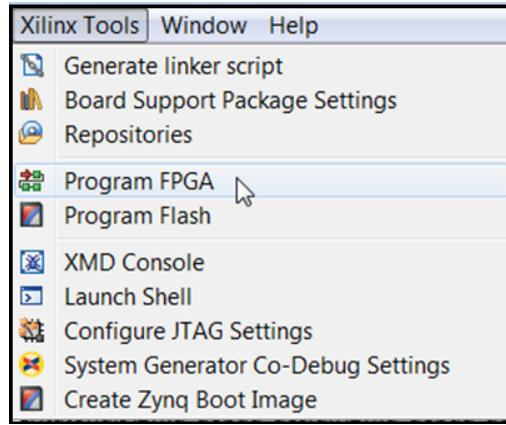

Figure 39: Program FPGA
3. Next, download the bitstream into the FPGA by selecting Xilinx **Tools** > **Program FPGA** (FIGURE 39).